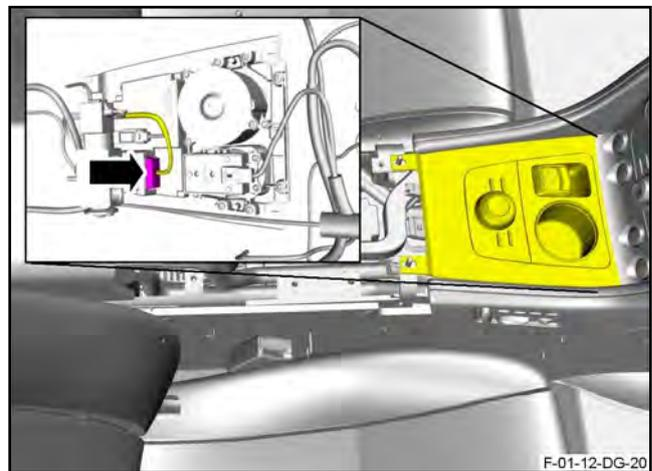

Figure 49
60. Disconnect the electrical connector from the driver's console assembly (refer to Figure 49).